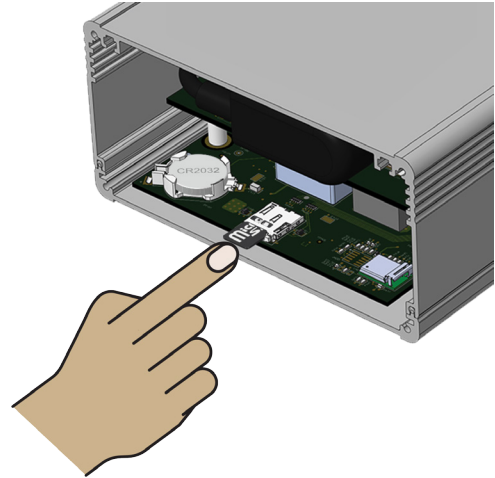

Figure 21: Insert new MicroSD card
- b. Insert a new card into the tray, pushing in the protruding end until it clicks into place, which locks the card to the tray. Refer to Figure 21 below.